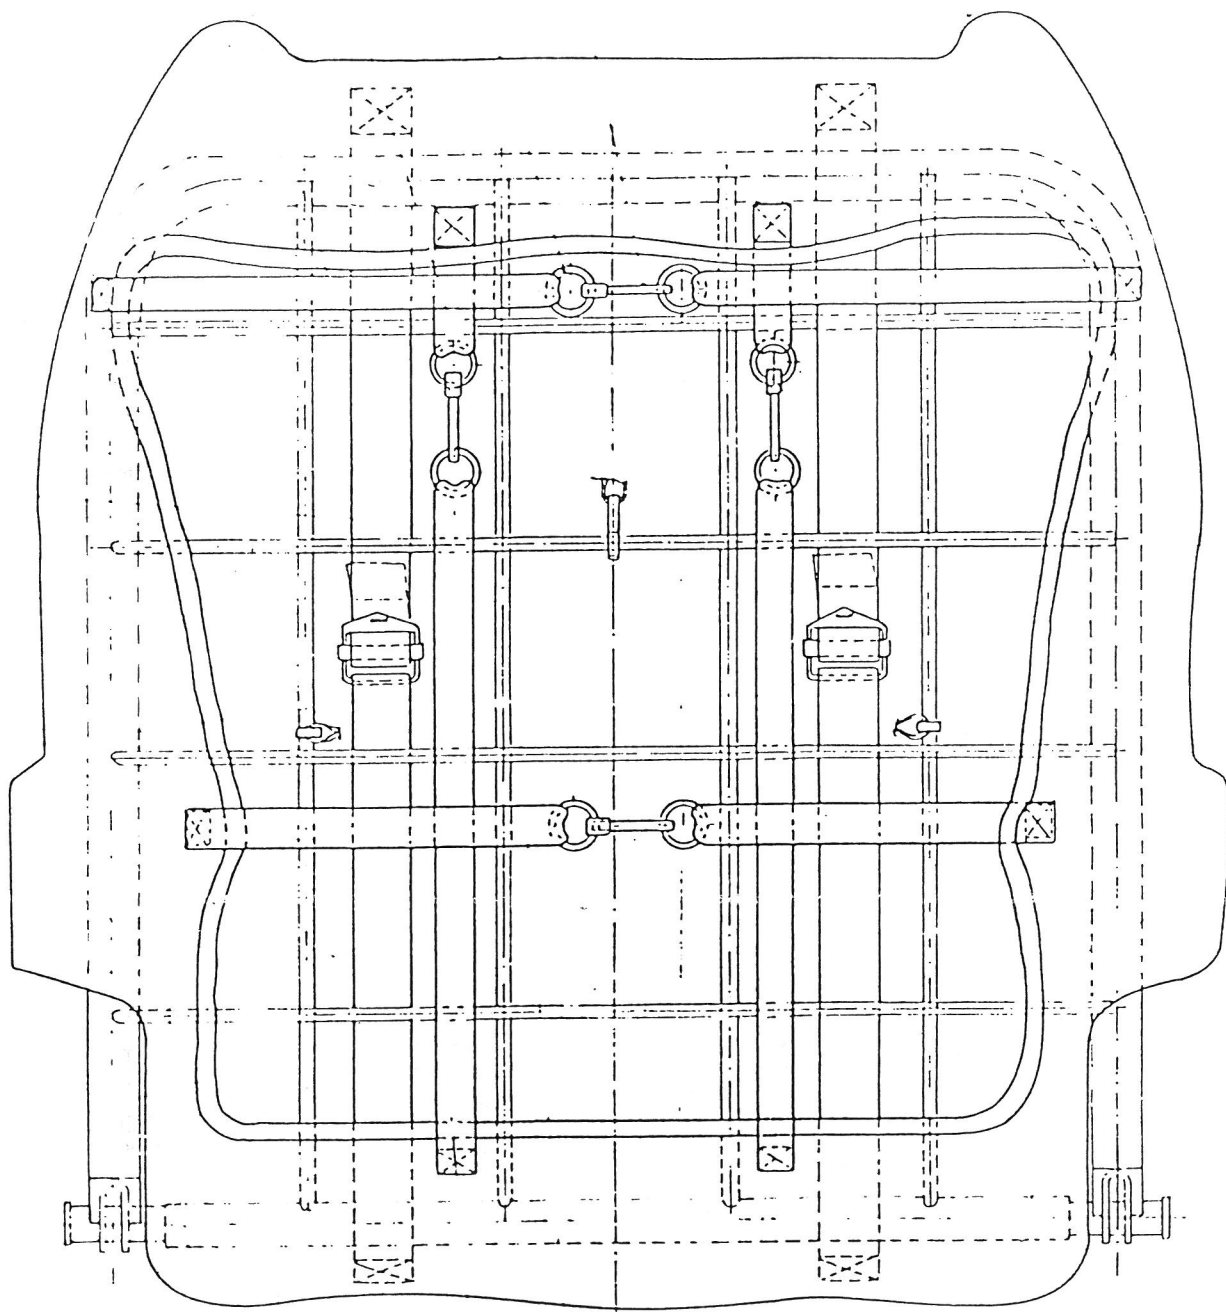

Fig. 2 Seat
2. Release snap hooks and hooks on the seat bottom part and remove the cover (Fig. 2).